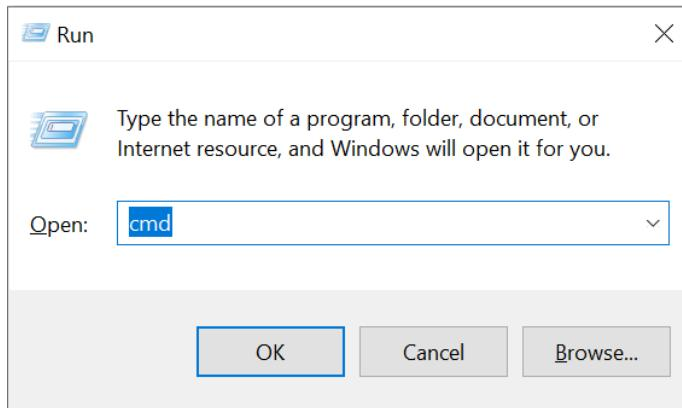
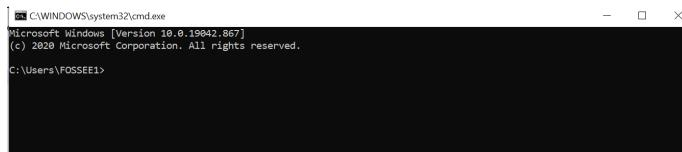

Figure 3.27: Launching the Command Prompt on Windows
Figure 3.28: Command Prompt on Windows
1. Launch the Command Prompt. Press the Windows key+R together. A window, as shown in Fig. 3.27 appears. In the text box adjacent to **Open**, type **cmd**, and press Enter. The Command Prompt, as shown in Fig. 3.28 appears. By default, it points to the home directory.
1. Launch the Command Prompt, as shown in Fig. 3.27.
1. Launch the Command Prompt. Press the Windows key+R together. A window, as shown in Fig. 3.27 appears. In the text box adjacent to Open, type cmd, and press Enter. The Command Prompt, as shown in Fig. 3.28 appears. By default, it points to the home directory.